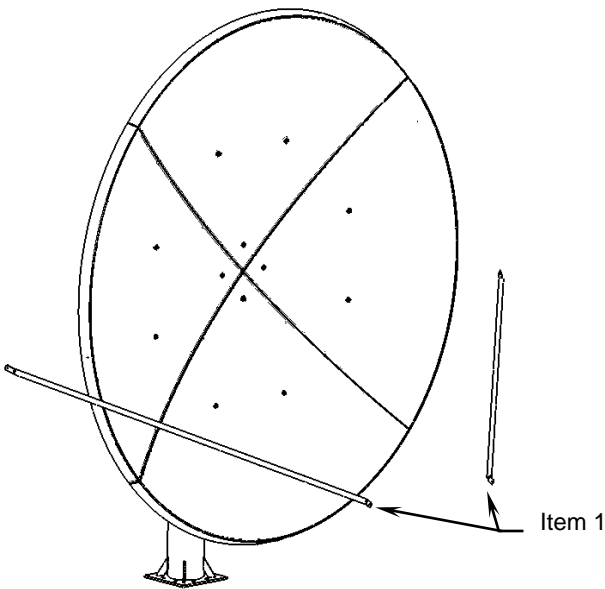
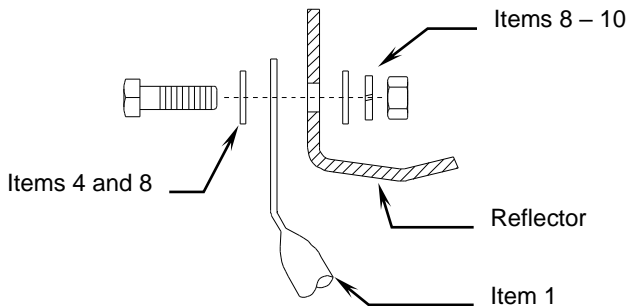

Figure 23: Feed Rod Reflector Assembly
Figure 24: Feed Rod Reflector Detail
1. Attach the long end of each feed rod (item 1) loosely to the sides of the reflector with 3/8" hardware (items 4, 8 – 10). See Figure 23, Feed Rod Reflector Assembly. See Figure 24, Feed Rod Reflector Detail.